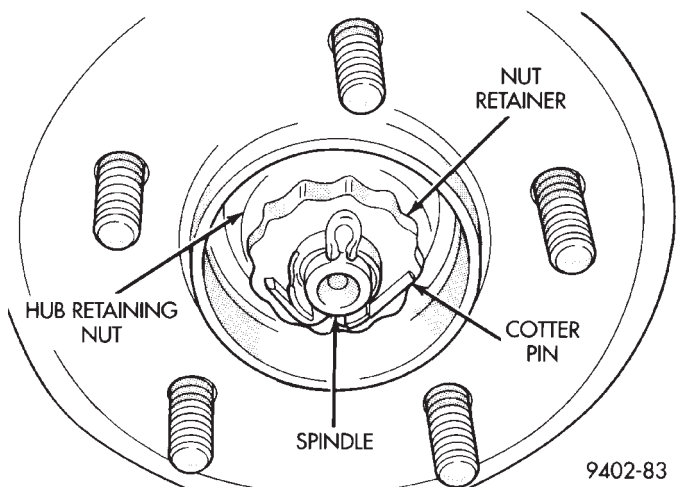

Fig. 135 Hub And Bearing Retaining Nut
(5) Remove the cotter pin, nut retainer, wave washer and the nut and washer attaching the hub/bearing assembly to the spindle (Fig. 135).
(6) Remove parking brake shoe assemblies from the rear disc brake adapter. See Park Brake Shoes With Rear Disc Brakes in the Removal And Installation section in this group of the service manual for the removal procedure.
(14) Adjust the park brake shoes to an outside diameter of 171.5 mm (6.75 in.).
(15) Install hub/bearing assembly on spindle.
(16) Install the washer and retaining nut for the hub/bearing assembly (Fig. 135). Tighten the retaining nut to a torque of 168 N·m (124 ft. lbs.).
(17) Install the wave washer, nut retainer and cotter pin on rear spindle (Fig. 135).
(18) Install hub/bearing dust cap.
(19) Install rear rotor on the rear hub assembly. Install rear disc brake caliper assembly on adapter.
(20) Install rear tire and wheel assembly on vehicle.